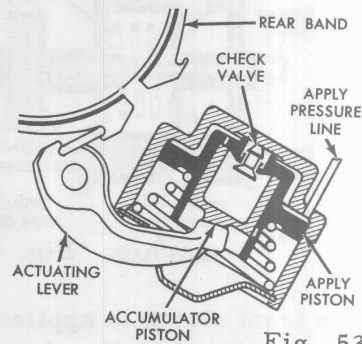

Fig. 53
- ☒ Two rear servo pistons apply the rear band (Fig. 53). The small fast-acting piston is in direct contact with the servo lever and is located inside the larger piston.